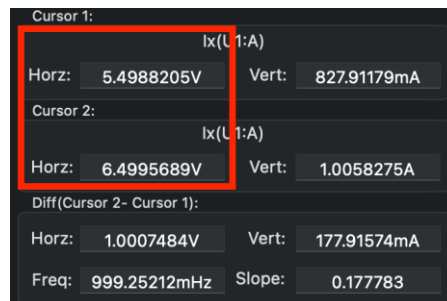

Fig. 1.7 Cursor setting
4. Using the plot pane's cursors, measure the **average resistance of the SCR by using the cursors**. Kindly see Fig. 1.7 for your reference. To calculate the average resistance, take the ratio of **Horz** measurement to **Vert** measurement. Record the result to Table 1.2.